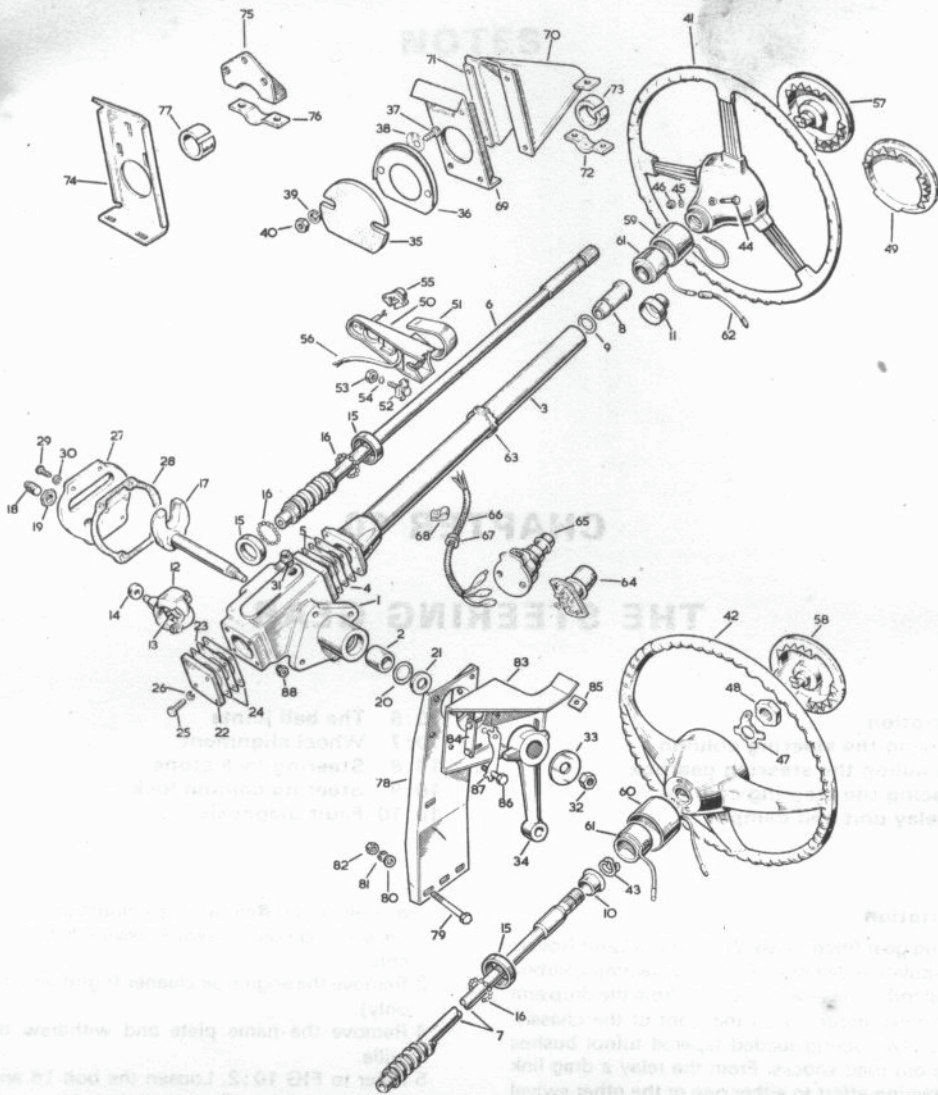

FIG 10:1 Layout of steering column
- 5 Refer to FIG 10:2. Loosen the bolt 16 and prise the upper relay lever 15 clear of the relay.
- 9 At this stage, the nut 32 (see FIG 10:1) and washer 33 can be removed and the drop arm 34, pulled from the shaft 17 by the use of a heavy extractor tool. Mark the shaft and drop arm so that they can be replaced in the same relative position if necessary.
- 10 Remove the ball joint 55 (see FIG 10:2) from the drop arm 34 (see FIG 10:1), again using an extractor or tapping the side of the drop arm adjacent to the ball joint.
- Key to Fig 10:1**